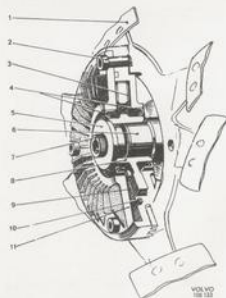
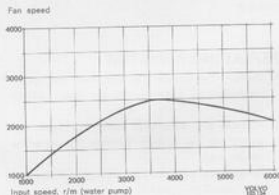

Fig. 2-198. Viscous fan
Fig. 2-206. Curve for fan coupling slip
The fan is a fixed fan or a speed-regulated fan, a so-called viscous type (see Fig. 2-198).
The function of the viscous type is to ensure that the fan blades do not exceed a certain speed even if the engine speed is exceeded. See Fig. 2-198.
The six fan blades are mounted asymmetrically to keep down the noise level. The fan coupling consists of the casing (11, Fig. 2-198) in which the fan blades (1) are secured with the bolt (2). The casing (11) has two halves which, however, cannot be separated for repairs, the fan coupling then being replaced complete. The hub (8) has a light fit on the water pump flange (6) and is locked by means of the center bolt (7). The hub is provided with a slip disc of friction material (9) surrounded by oil. During idling and at low speeds, slipping is insignificant, so that the fan provides an air current for good cooling. When the ingoing speed (that of the water pump) exceeds about 58 r/s (3500 r/m), slipping increases (see Fig. 2-206). With this arrangement the fan speed should never exceed about 0.4 r/s (25 r/m). The fan noise output would then be low compared with a fan which runs at the same
a mark on the fan and one on the water pump pulley. Find out the speed relationship between fan and pulley by means of the stroboscope. The fan speed should follow the speed of the water pump according to the curve given in Fig. 2-206.